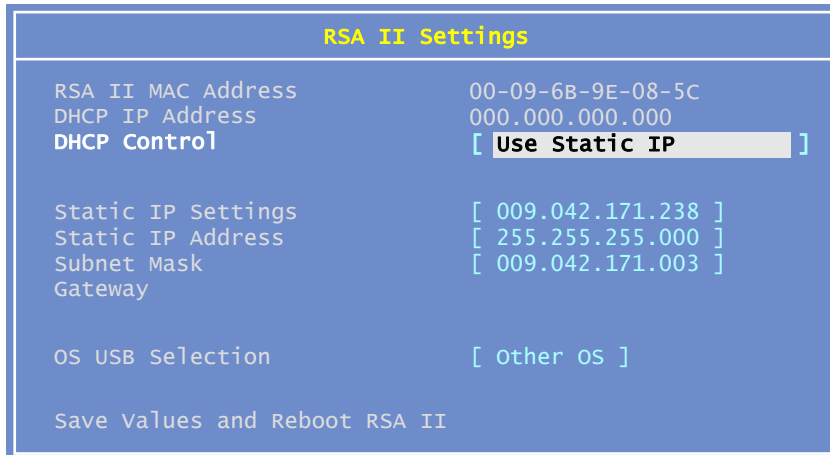

Figure 5-3 RSA II Settings in server BIOS
- Select **Advanced Settings** → **RSA II Settings** and ensure that the OS USB Selection setting is set to **Linux**, as shown in Figure 5-3 on page 167.
To view the current DHCP-assigned address, enter Setup (press F1 at boot time when prompted) and select **Advanced Settings** → **RSA II Settings**. The assigned address will be listed on the second line, as shown in Figure 5-3 on page 167.
If possible, we recommend you change this to always use a static IP address or at least set up a reservation in your DHCP server. This is changed in Setup by selecting **Advanced Settings** → **RSA II Settings** (see Figure 5-3 on page 167).
Note: If you have not already done so, change the setting OS USB Selection to **Other OS** in the system BIOS, as shown in Figure 5-3 on page 167.
Note: If you have not already done so, change the setting OS USB Selection to **Linux OS** in the system BIOS, as shown in Figure 5-3 on page 167.